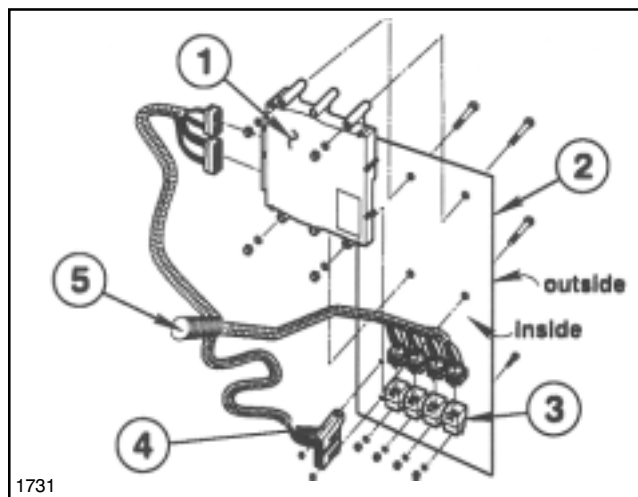

FIG. 10
2. Mount ECU to Console Cover using four (4) 1/4 NC x 2-1/2" hex hd cap screws, lock washers and hex nuts. See FIG. 10.
3. Mount four (4) Relays using 1/4 NC x 5/8" hex hd cap screws, lock washers and hex nuts.